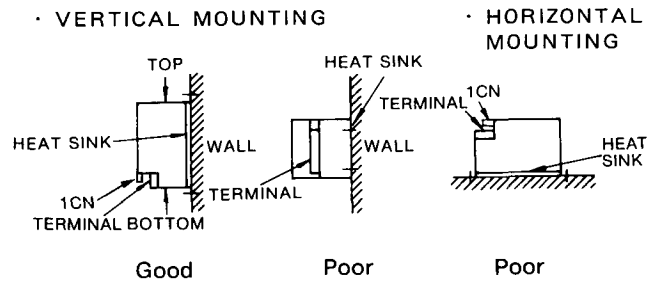

Fig. 7.5 Mounting of SERVOPACK
(3) Mounting Direction
Mount the unit vertically on the wall using the mounting holes (4) on the base plate, with main terminals at the bottom. (Fig. 7.5)